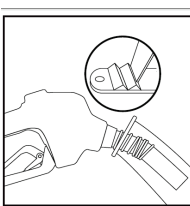

Figure 6
- Solution: Reduce the flow rate by using a lower clip position (see *Figure 6*).